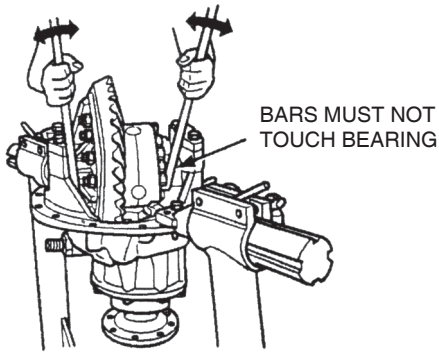

Figure 5.38
- B. Insert two pry bars between the main differential case and the ring gear at locations other than described in Step A. The pry bars must not touch the main differential bearings. Figure 5.38.